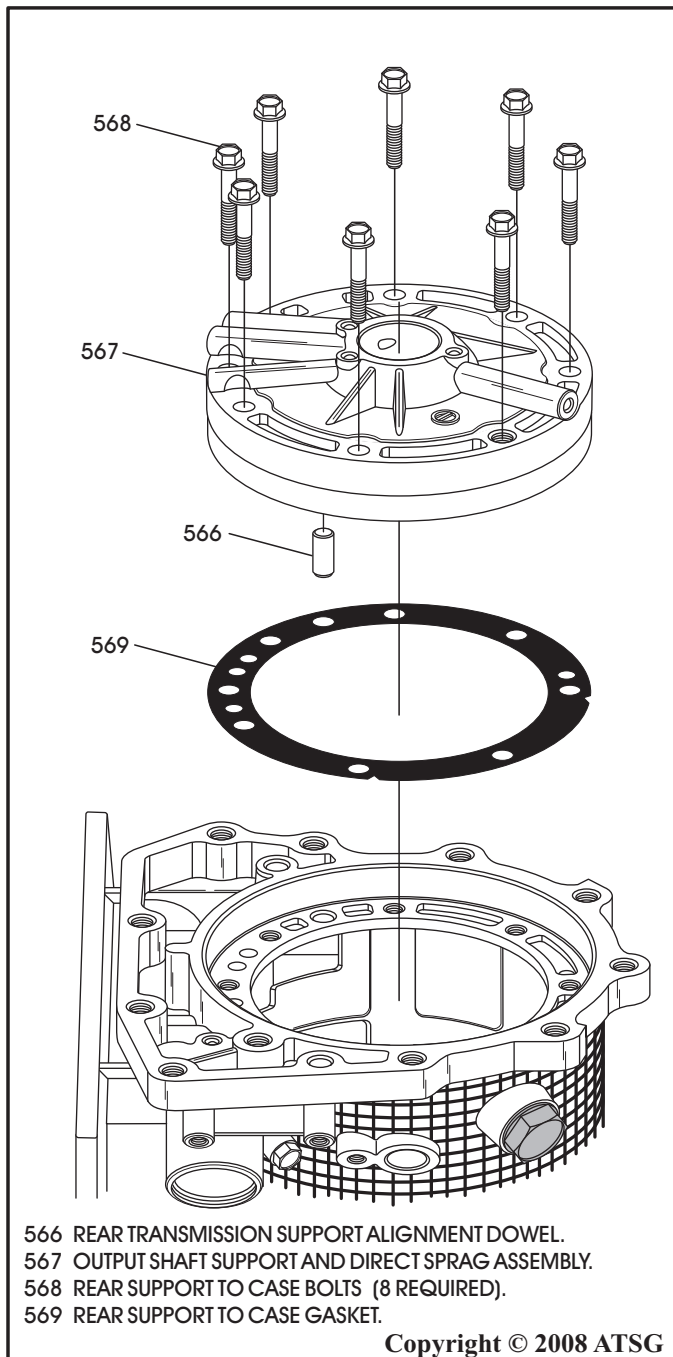

Figure 184
1. Install a new rear support to case gasket, as shown in Figure 184.
2. Install 5 speed output shaft support, as shown in Figure 184.
3. Install the eight rear support retaining bolts, as shown in Figure 184.